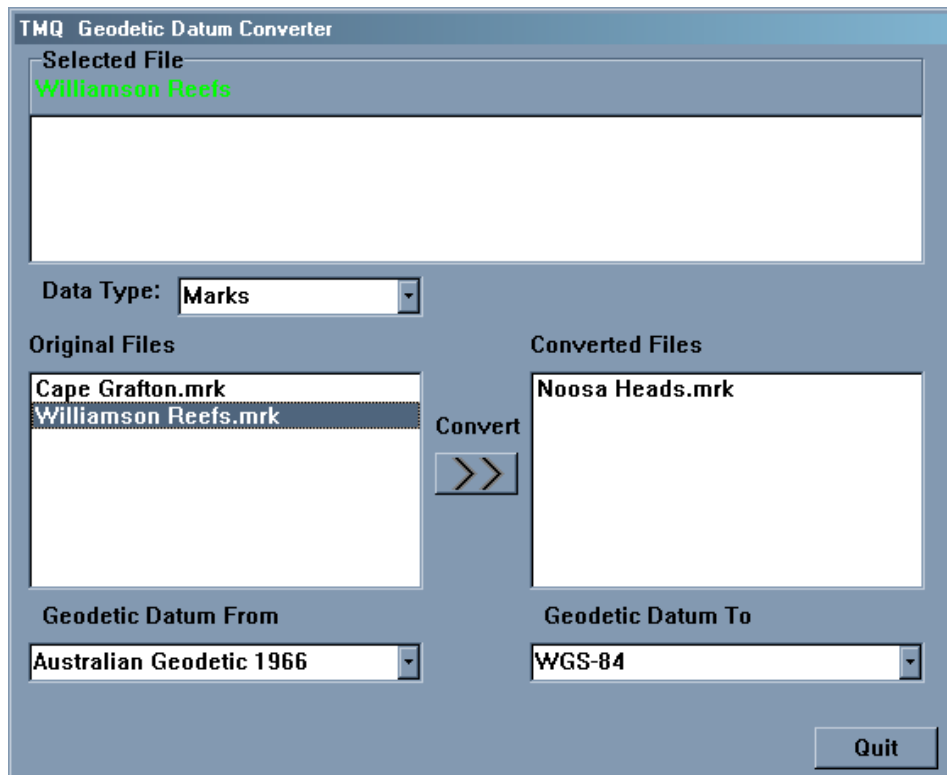

Figure 3.8
4. Click 'Convert'. The converted file will now appear in the 'Converted Files' section. (See Figure 3.8)